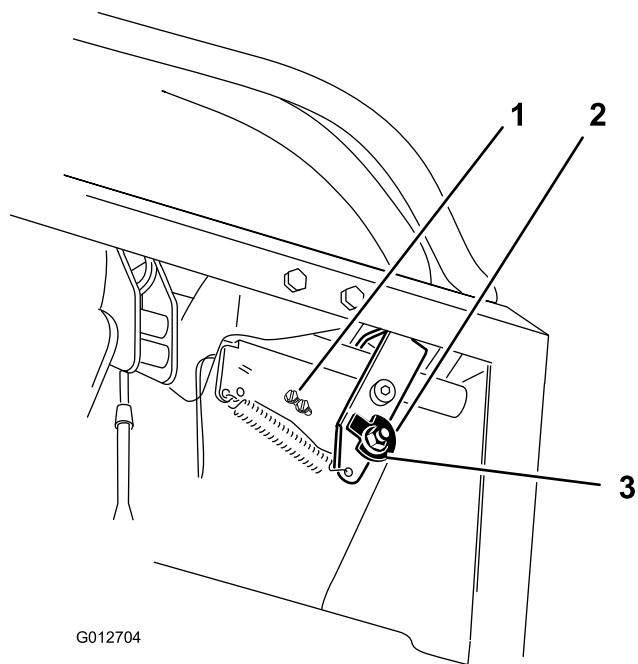
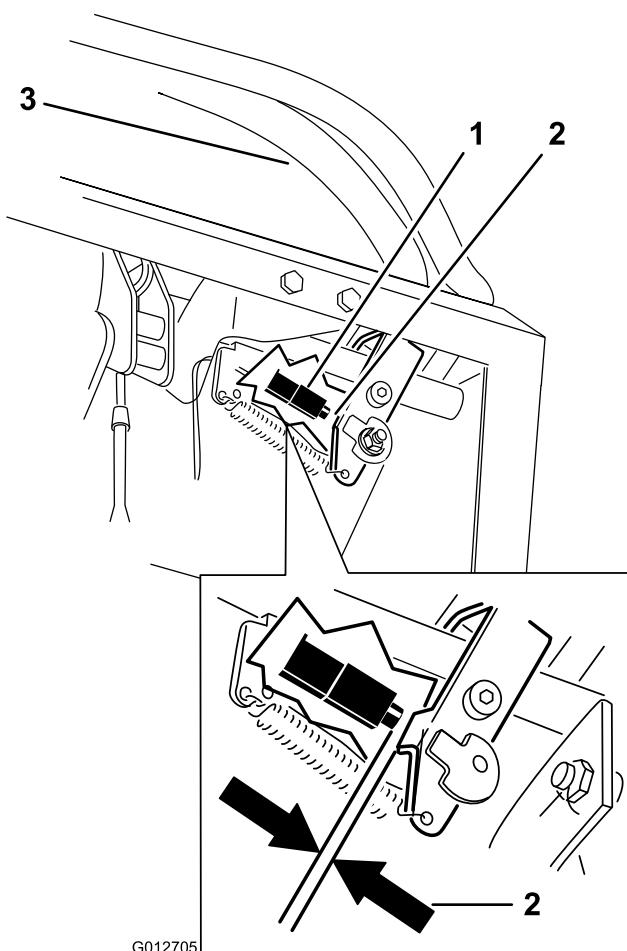

Figure 69
Figure 70
7. Loosen the nut holding the cam (Figure 69).
10. Check the gap between the control lever and switch as shown in Figure 70. The gap needs to be an 1/8 inch (3 mm) with the right motion control lever in the neutral, unlocked position.
11. If needed, loosen the screws holding the switch and adjust the switch (Figure 69 and Figure 70).